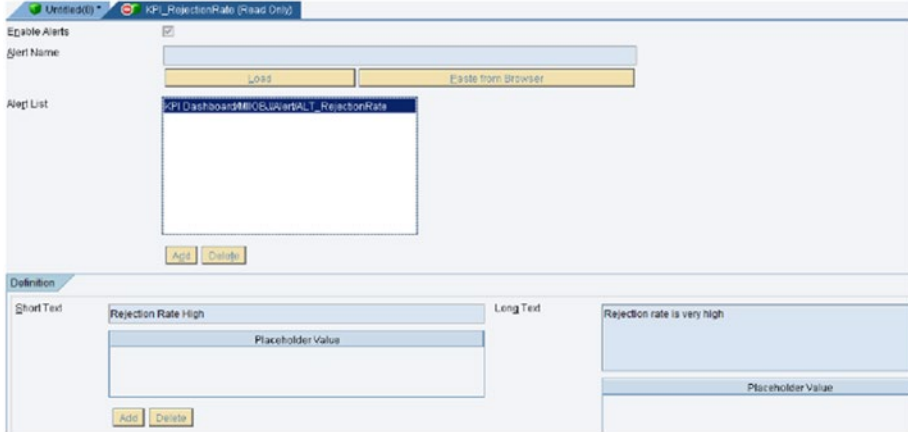

Figure 7-103. Enabling alerts in KPI
11. Open the corresponding KPI that needs to trigger that alert and select the Enable Alerts checkbox. See Figure 7-103.